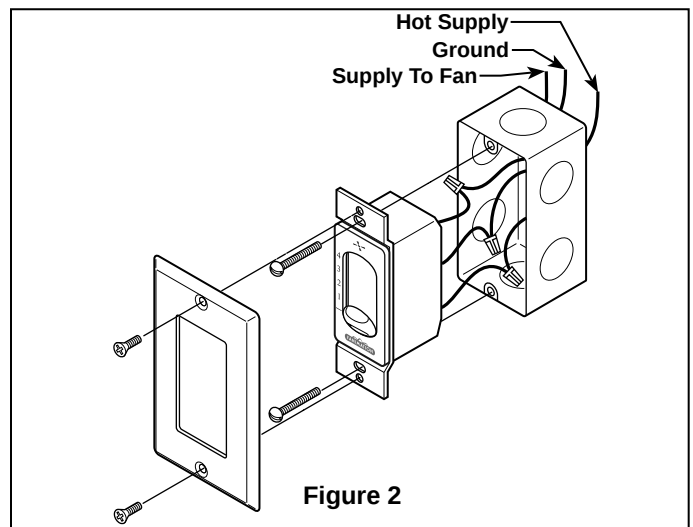

Figure 2
6. While pulling up on the hanger ball, securely tighten the two setscrews with nuts in the downrod support. Slide the Motor Coupling Cover down on top of the motor housing. (Figures 2 & 3)
1. Securely attach the hanger bracket to the outlet box using the outlet box screws and washers supplied with the outlet box (Figure 2).
NOTE: Outlet box screws pass through slotted holes of the hanger bracket (Figure 2).
3. Carefully lift the fan and seat the downrod/hanger ball assembly on the hanger bracket that was just attached to the outlet box (Figure 3). Be sure the groove in the ball is lined up with tab on the hanger bracket (Figure 2).
2. Securely fasten the three blades with washer-head screws with fiber washers. Do not over-tighten. (Figure 2)